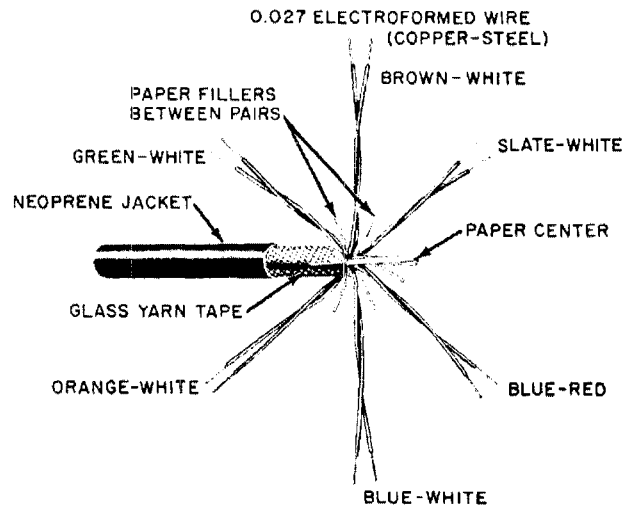

Fig. 1—C Multiple Drop Wire (Present Design)
2.03 Fig. 1 illustrates the makeup of C Multiple Drop Wire.